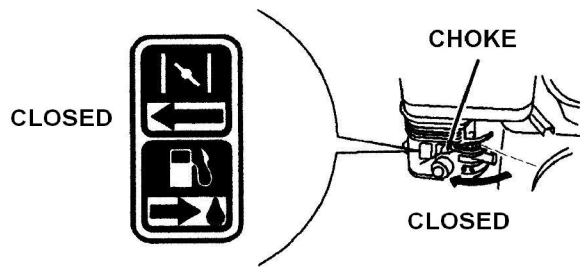
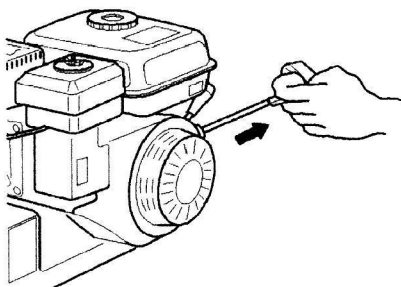

Figure 4a
Figure 4b
- Bring the choke to the CLOSED position for a cold start (direction shown by the arrow, Fig. 4a).
- Grip the engine pull lead handle (Fig. 4b) and pull gently until you feel the “bite”, then pull on the lead sharply to overcome the pressure, prevent kickback and switch on the engine. Repeat the procedure, if necessary, with the accelerator lever in INTERMEDIATE position. Once the engine is running, set the accelerator in the MINIMUM position and gently return the choke to the OPEN position (Fig. 4a).